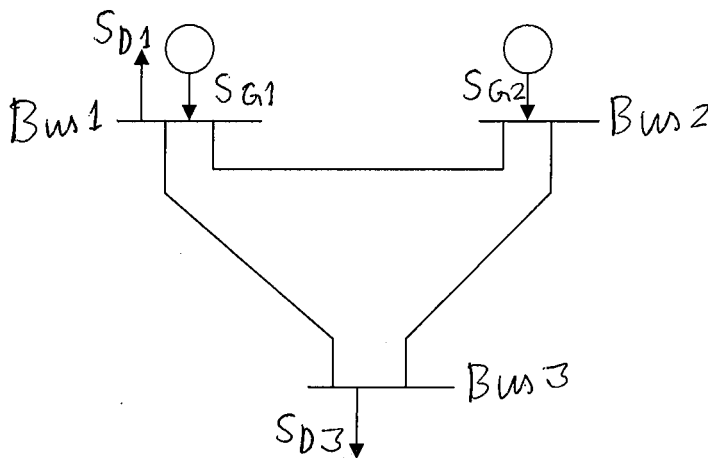

Fig. 2
- b) Consider the three-bus power system shown in Fig. 2. Each of the three lines has a series impedance of  $0.026 + j0.11$  p.u. and a total shunt admittance of  $j0.04$  p.u.. The specified quantities at the buses are shown in Table 1.